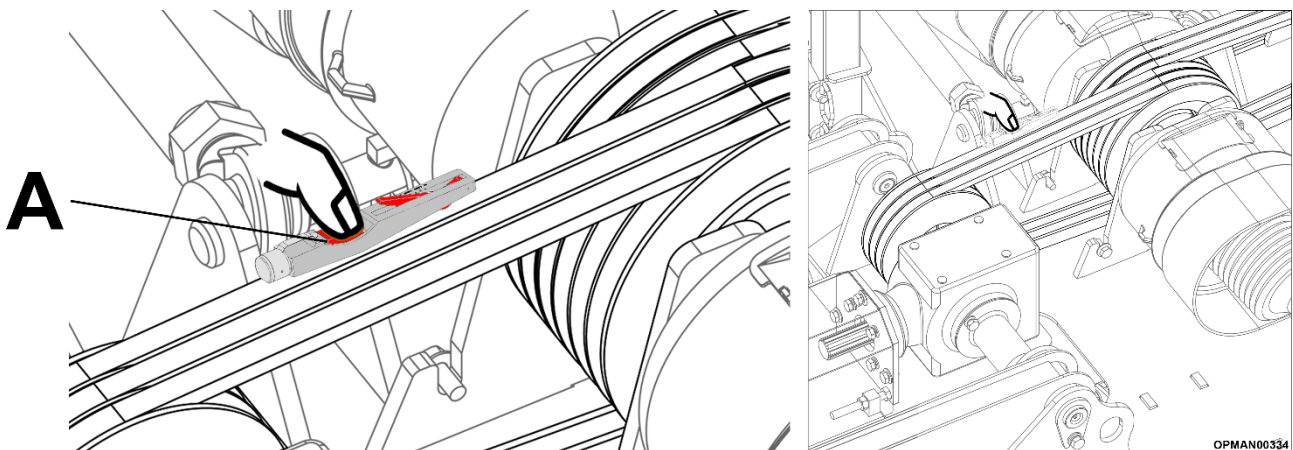

Figure 5.36 – Primary Drive Belt Tension Overview
Tension is correct when a force is exerted on the belts at their mid-point between the inner and outer pulleys which deviates the belts; see Figure 5.36 (A).